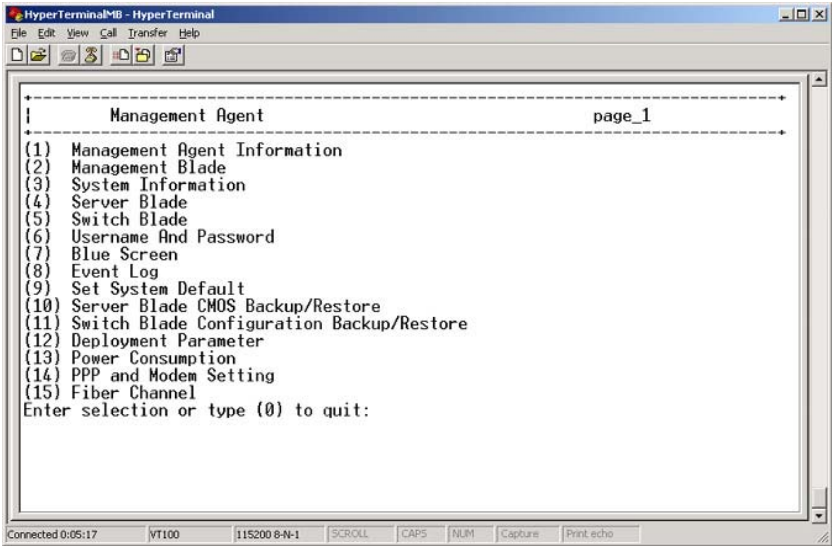

Figure 18: Management Agent menu.
You can change the root password of the management blade via menu item 6 (*Username and Password*) of the *Management Agent* menu (see figure 18 on page 57).